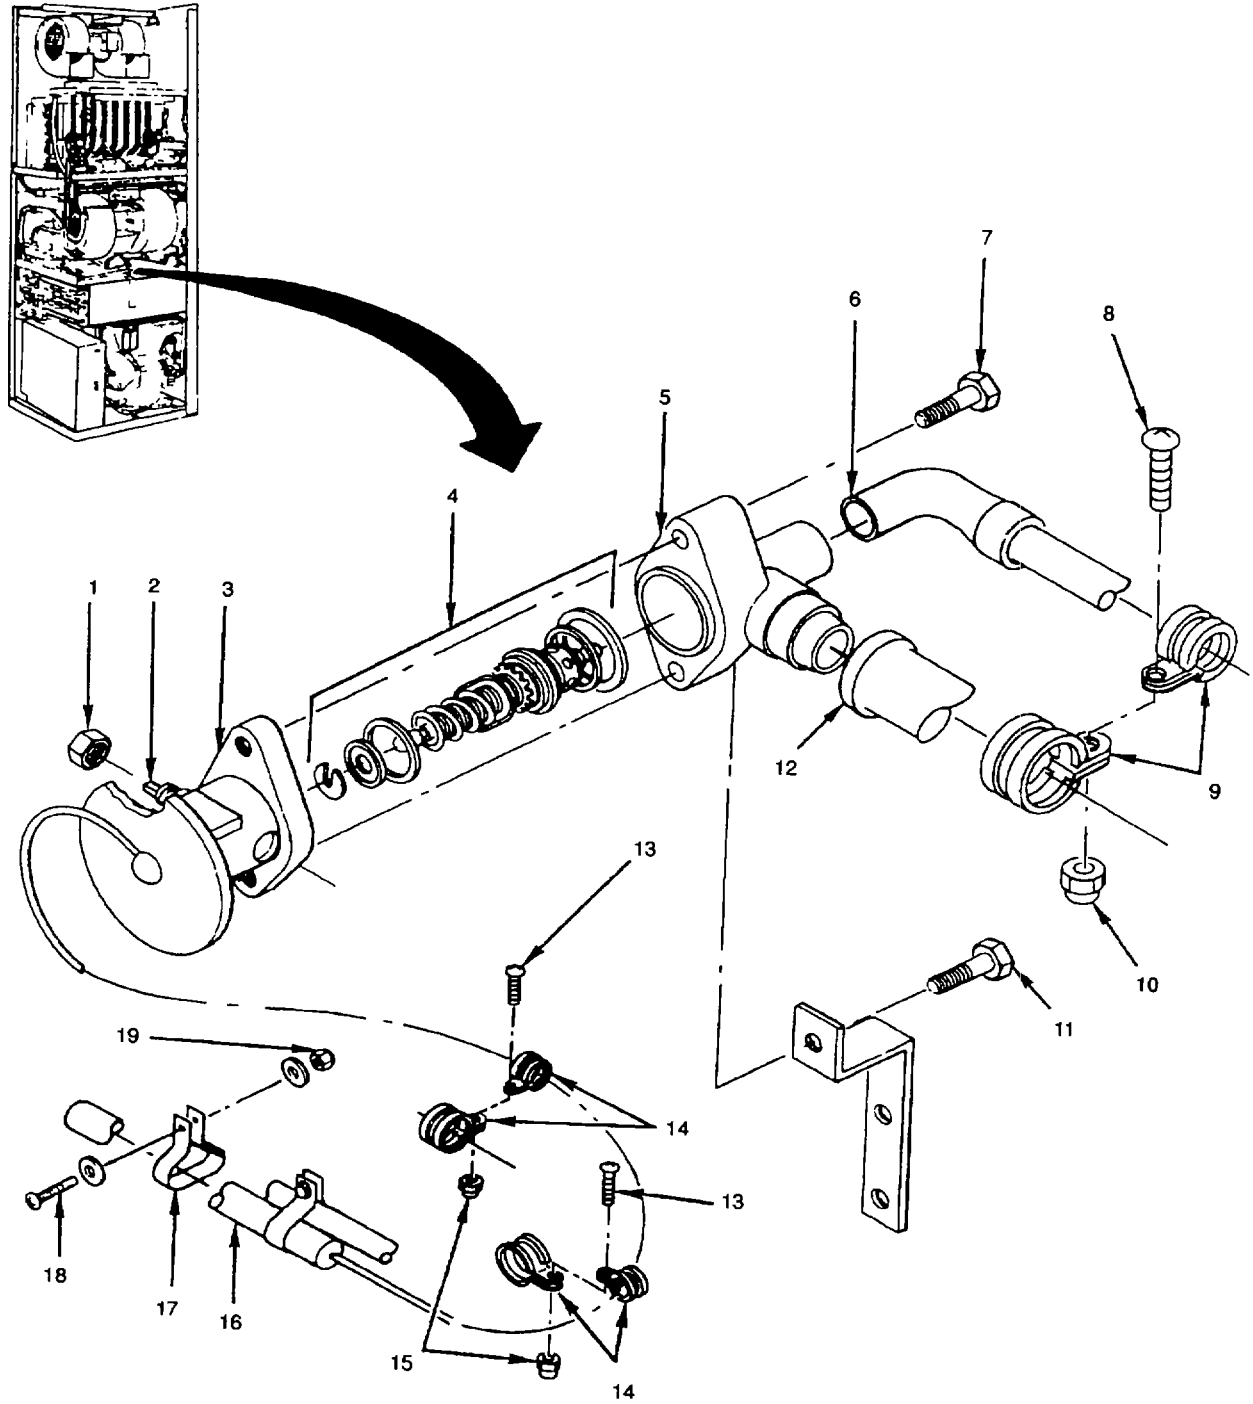

Figure 5-22. Expansion Valve (V6) (Liquid Quench)
- (1) Disconnect air conditioner input power at source, and
- (2) Remove condenser fan section panel (paragraph 4.23).
- a. Inspect for evidence of leaks, kinked, or otherwise damaged capillary line, and loose or missing mounting hardware (see fig. 5-22)